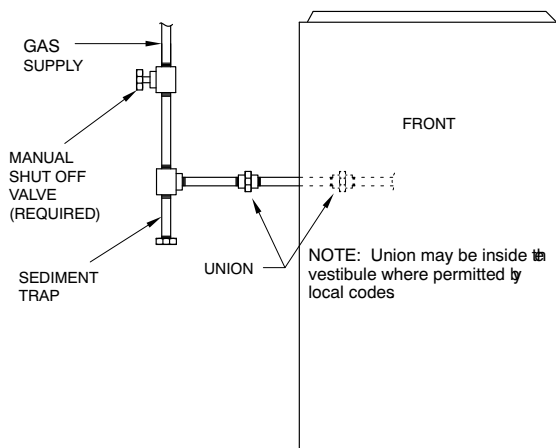

Fig. 32 – Typical Gas Pipe Arrangement
Install a sediment trap externally in riser leading to furnace as shown in Fig. 32. Connect a capped nipple into lower end of tee. Capped nipple should extend below level of furnace gas controls. Place a ground joint union between furnace gas control valve and exterior manual equipment gas shutoff valve.
5. Fasten the external electrical box to the furnace casing using two (2) sheet metal screws.
11. Connect field power and neutral leads to furnace power leads inside the external electrical box as shown in Fig. 32.